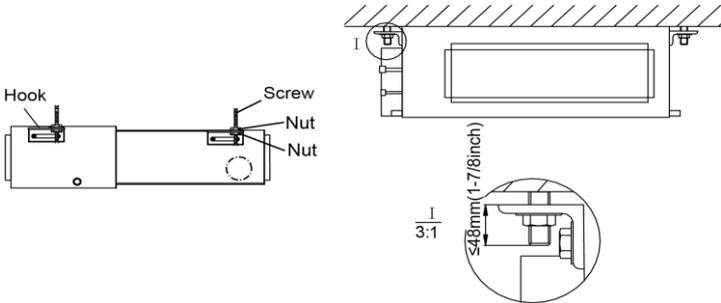

Fig.4.6
- (4) Pass the unit hangers over the bolts installed to the ceiling and install the unit with the special nut (Fig. 4.6).